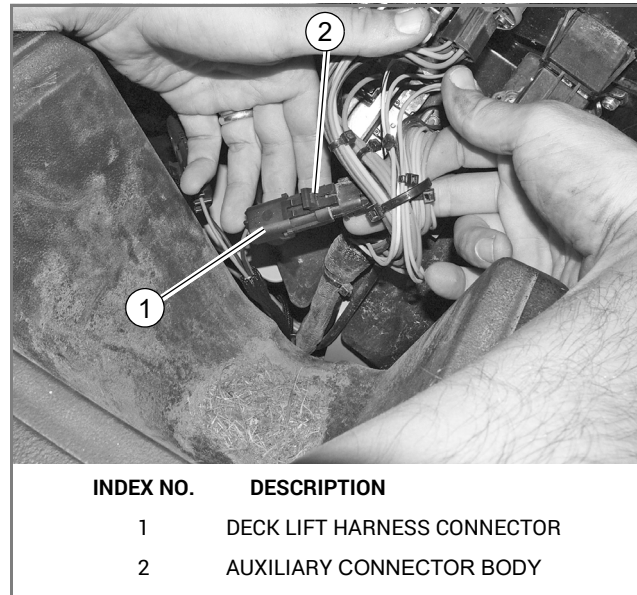

FIG. 17
30. Plug the deck lift harness connector into the auxiliary plug. FIG. 17